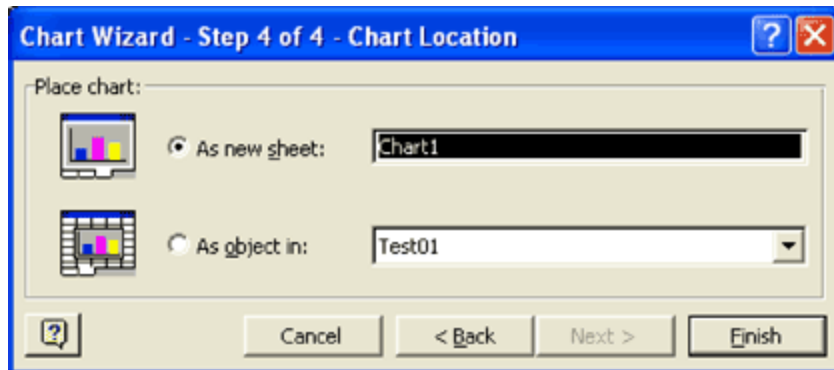

Figure 15. You finish your chart by selecting where to place the graph in a spreadsheet.
7. The final step (Step 4) in the Chart Wizard sets the placement of the graph in the spreadsheet (**Figure 15**).